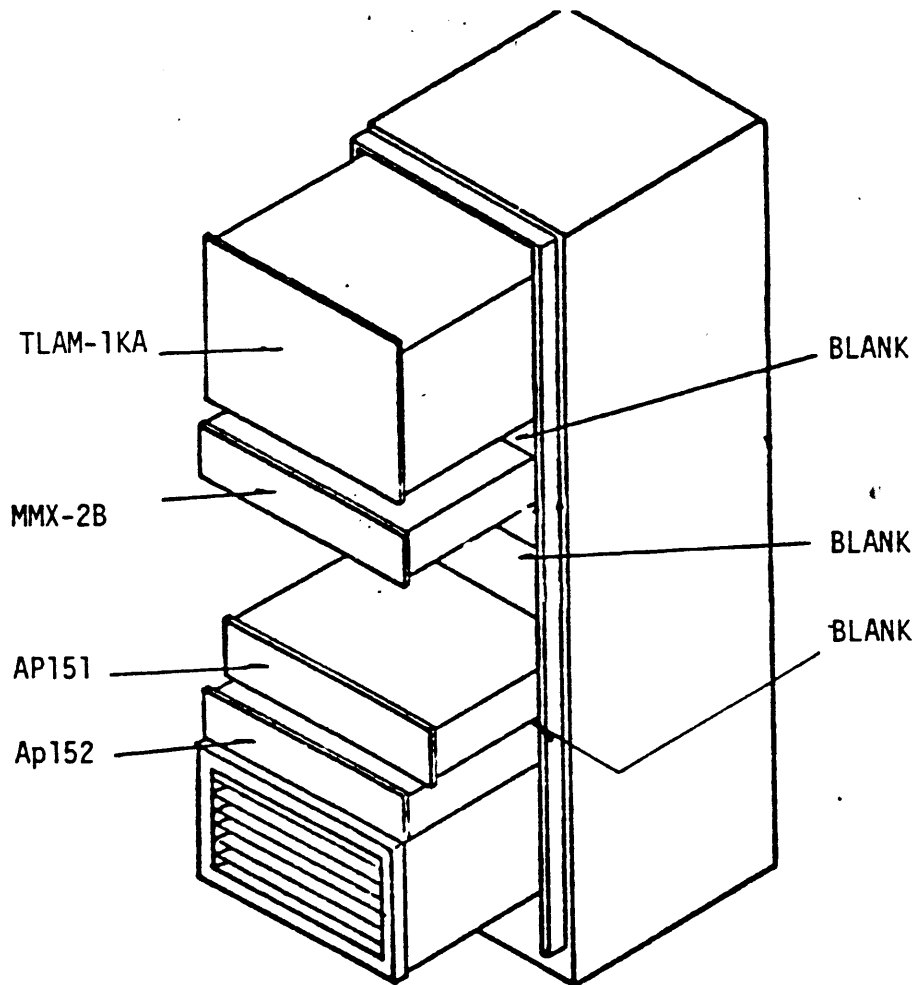

Figure 2-2. HFTM-1KJ2B Modular Unit Installation
c. Modular Unit Installation. The component location for modular unit installation in the HFTM-1KJ2B transmitter is shown in figure 2-2. All transmitter units are slide mounted. The modular units of the HFLM-1KA should be installed into the equipment cabinet by referring to the detailed installation procedural steps in Appendix B for Linear Power Amplifier HFLM-1KA. The exciter unit should be installed in the same manner, refer to Appendix A.